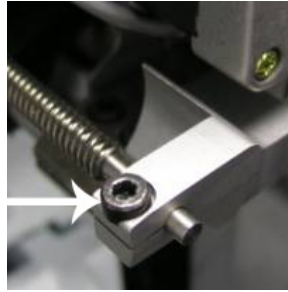

Figure 3 - Loosen Top Screw
6. Loosen the top screw to the left color change spindle mounting bracket as shown in Figure 3.